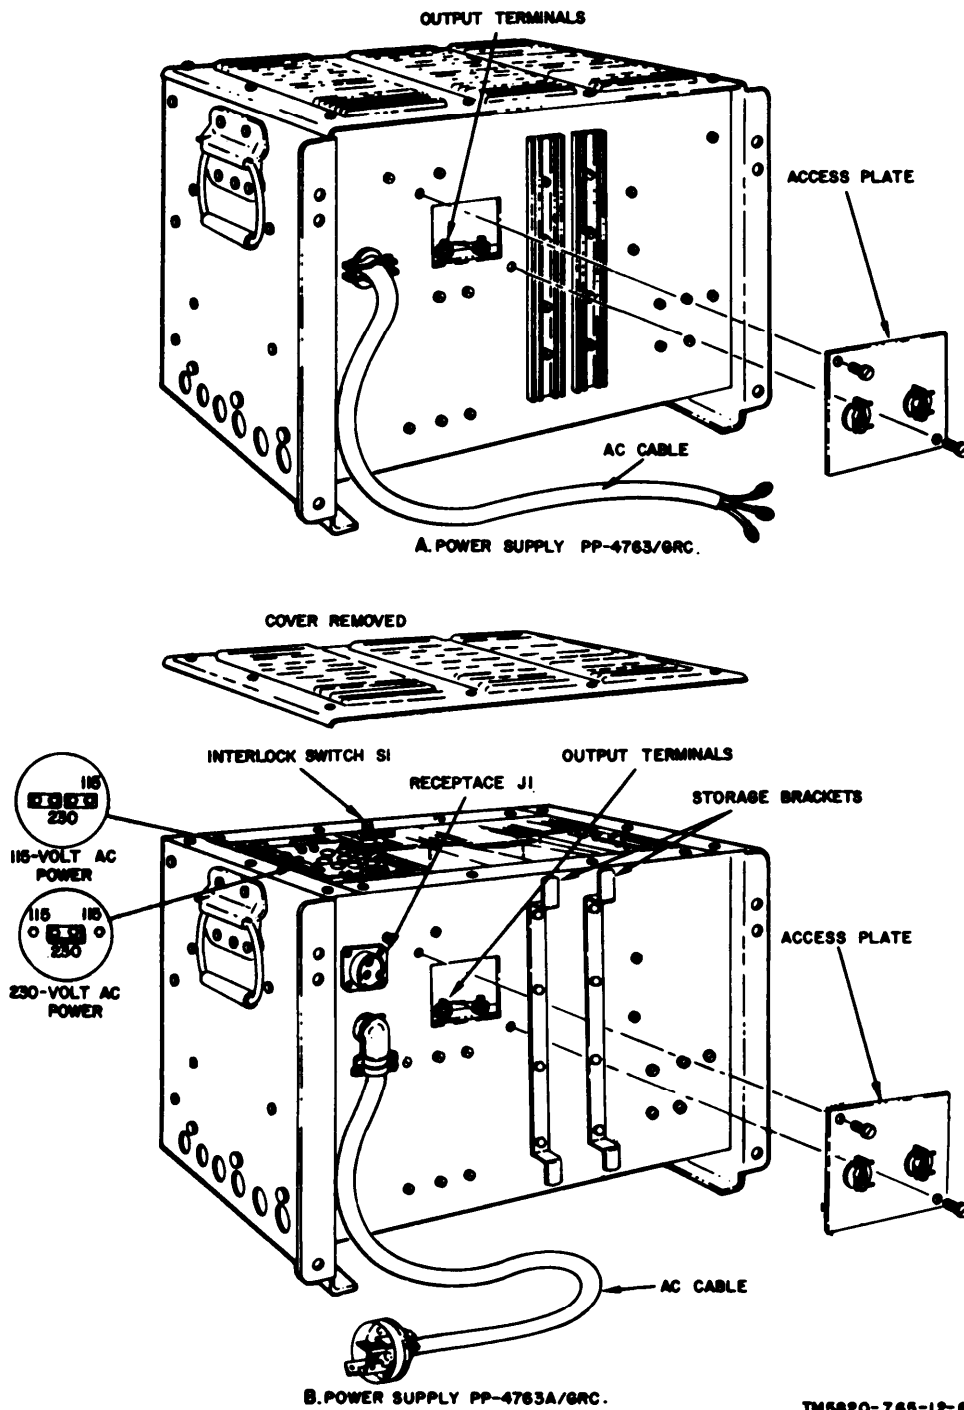

Figure 2-2. Installation connections.
high, 19½ inches wide, and 15¼ inches deep and weighs 125 pounds. A hinged front panel and a removable cover provide access to the electrical components. The PP-4763A/GRC is provided with an interlock switch which opens the ac input power circuit when the cover is removed. An input circuit breaker and indicator are mounted on the front panel. A carrying handle is mounted on each side of the metal cabinet. An output voltage adjustment is mounted behind the front panel and can be reached by removing a plate on the outside of the front panel. The PP-4763A/GRC is provided with movable links for converting the equipment for use from a 116-volt ac power source to a 230-volt ac power source. The links can be reached by removing the cover. The sides of the cabinet are flanged on the bottom and at the back for mounting purposes. Venting is provided by air louvers on the bottom and on the top cover of the cabinet. An ac power cable (fig. 2-2) is connected through the rear panel of the power supply. The PP-4763A/GRC is supplied with an ac plug attached to the cable, and the PP4763/GRC is supplied with a cable that has three terminal lugs on each end. Output terminals (dc) with polarity plainly marked are located behind an access plate at the rear panel for connecting the output of the power supply to the equipment being powered (cable not supplied). Also, the PP-4763A/GRC is provided with a dc output receptacle at the rear panel which may be used instead of the output terminals for connecting to equipment being powered.
(fig. 2-2)
when using the PP-4763/GRC. Connect the power cable to either a single-phase 115-volt, 50- to 60-cps source, or a single-phase, 230-volt, 50- to 60-cps source when using the PP4763A/GRC. After determining which power source will be used, secure the ac input links in the correct position for the selected input power as illustrated in figure 2-2. For 115-volt power, secure the links as shown in figure 2-2; for 230-volt power, secure the links as shown in figure 2-2. Note that in the 230-volt position, both links are fastened (in parallel) across the two center terminals and secured. A connector is mounted on the power cable to connect the PP-4763A/GRC to the ac power supply; the power cable for the PP4768/GRC maybe connected directly to the ac power supply as follows:
(1) Connect the white wire to the grounded ac terminal.
(2) Connect the black wire to the ungrounded ac terminal.
(3) Connect the GRD wire to a good earth ground.
c. Remove the rear panel access plate to expose the dc output terminals (fig. 2-2).
d. Connect two dc leads with ¼-inch lugs capable of carrying 50-ampere current (or the current requirements of the load connected) to the power supply output terminals. The PP-4763A/GRC is provided with dc output receptacle J1 at the rear panel (fig. 2-2), and either the output terminals or output receptacle J1 may be used.